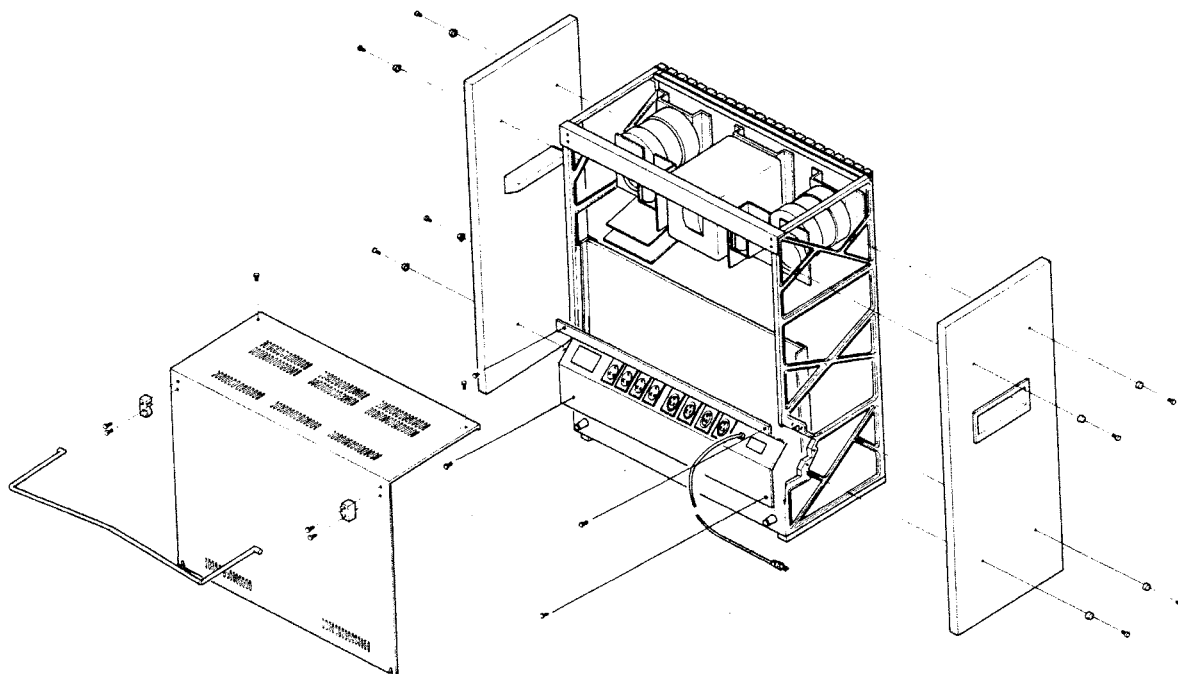

Figure 6-1 Tape Transport Access
- (1) Remove the rear cover by removing 10 screws. (Refer to Figure 6-1)